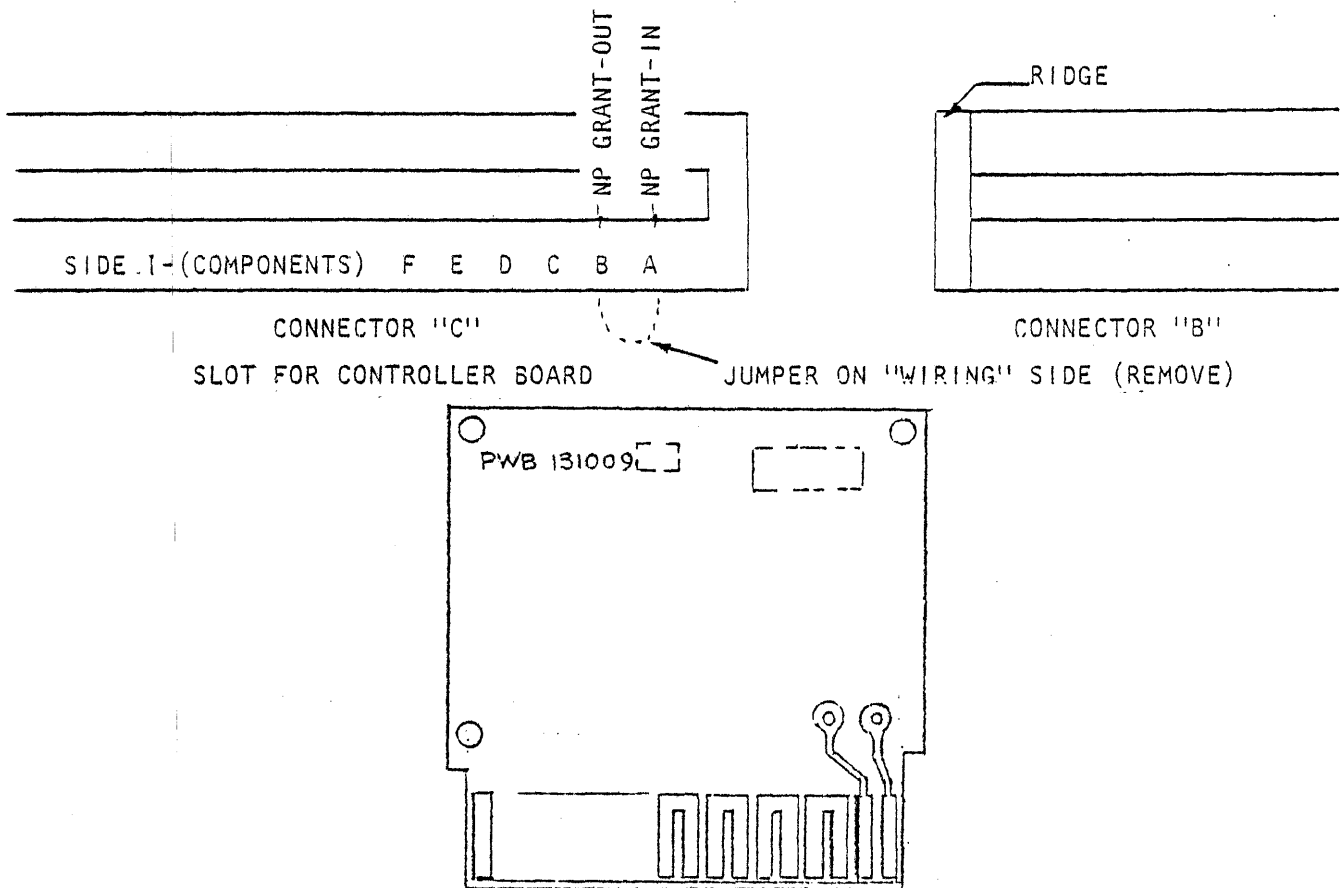

FIGURE 2-3 BACKPLANE JUMPERS
2.15 PRIORITY JUMPERS. The Direct Memory Access Non-Processor Grant lines are daisy-chained to the I/O devices. As shown in Figure 2-3, each device receives this signal on pin CA1 and sends this signal from pin CB1 to the next device.